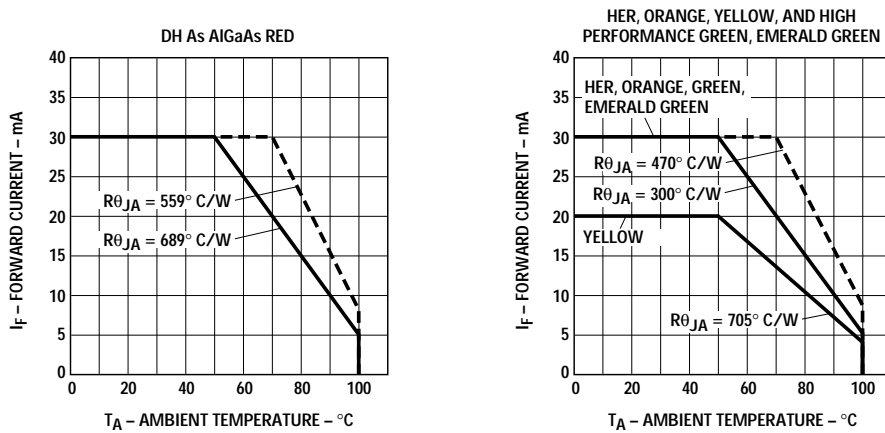

Figure 5. Maximum forward dc current vs. ambient temperature. Derating based on T_jMAX = 110°C.
1. See Figure 5 for maximum current derating vs. ambient temperature.